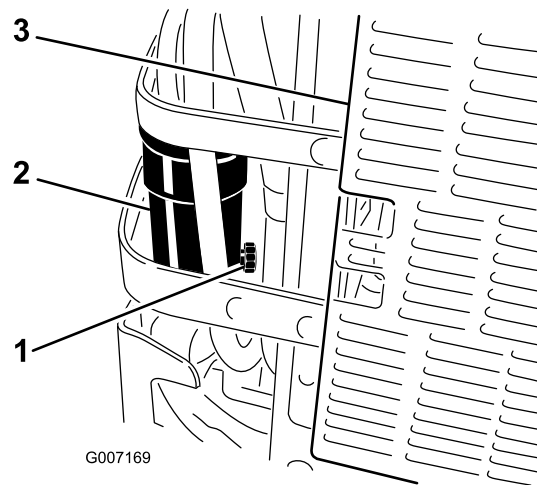

Figure 58
5. Open the drain valve on the water separator approximately 1 turn to allow water and other contaminants to drain (Figure 58).
6. Close the drain valve when only diesel fuel comes out (Figure 58).